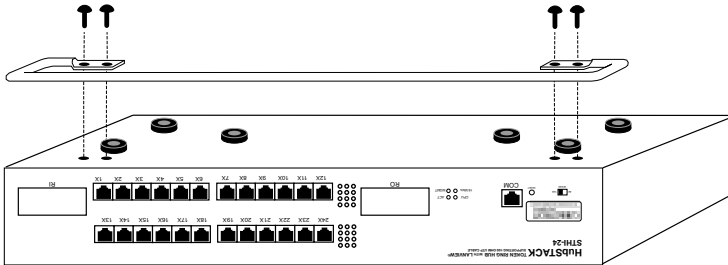

Figure 3-1. Attaching the Strain Relief Bracket
3. Attach the strain relief bracket to the bottom of the STHI as shown in Figure 3-1.